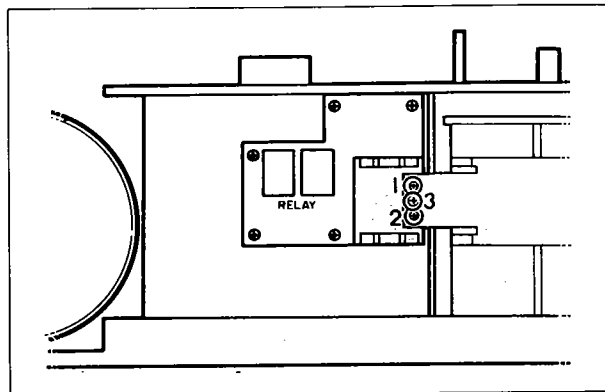

Fig. 2
- a. Remove screws ① through ③ in Fig. 2 and remove the diode bridge.
① and ② : Bind Head Tap-Tyte Screw 3 x 6Bℓ
③ : Bind Head Tap-Tyte Screw 4 x 8Bℓ